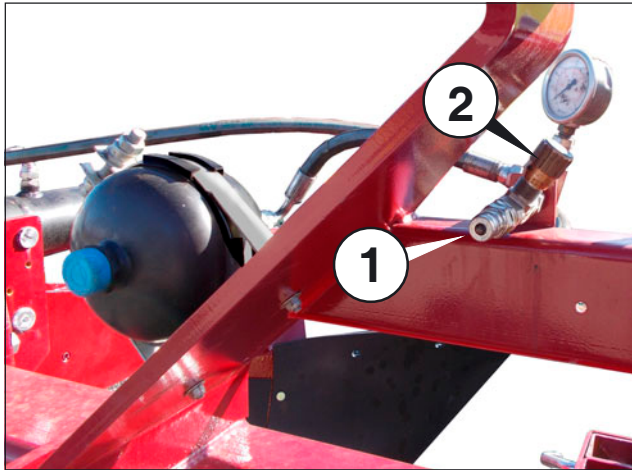

Fig 5
- Starting with the first accumulator - couple the quick release pressurising hose (from the accumulator lock valve, Fig 5:1) to the tractor auxiliary hydraulic outlet.
- Open the system lock valve by turning in an anticlockwise direction, Fig 5:2.